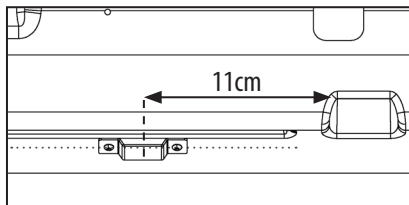

Figure 4
2. The recommended position for mounting the Controller (ensuring this does not interfere with the correct functioning of the Baby Pod stretcher straps and buckles), the clip is positioned 11cm from centre of clip to inside edge of stretcher buckle recess that is located at rear of the Baby Pod, parallel to the contours of the Baby Pod. (See figure 4)